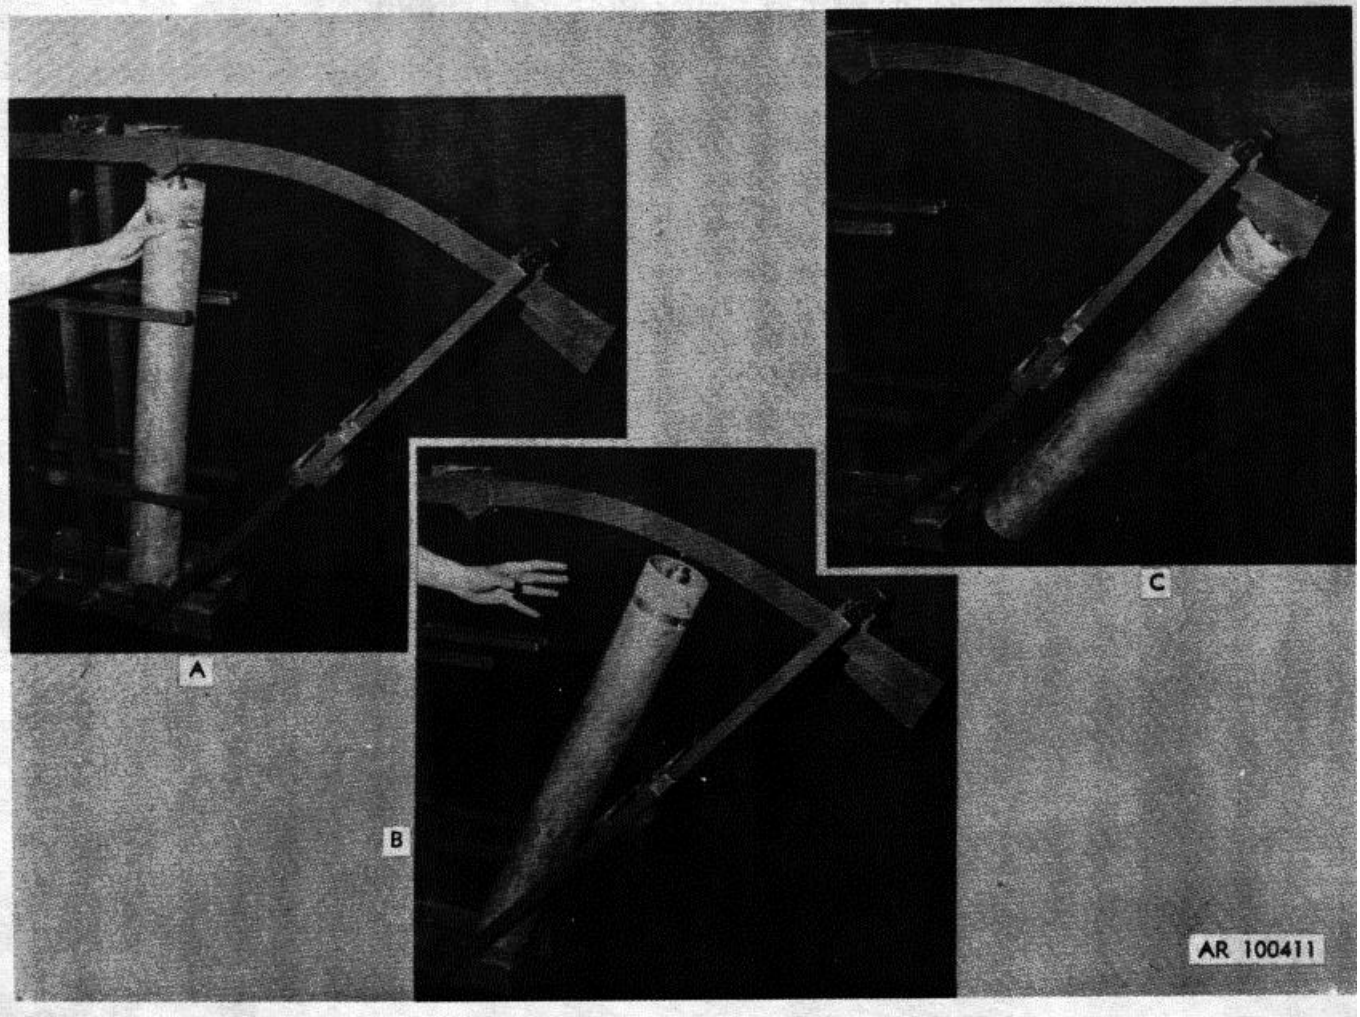

Figure 2-12. Launching sequences.
- (d) Push fuze end of flare in direction of cam (fig. 2-12) so that upon release, pull cable slides down snout and base of flare is pulled free of the trip.